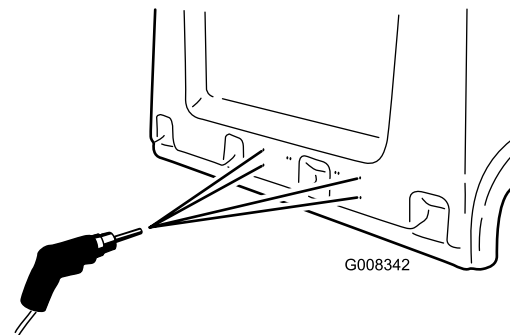

Figure 4
4. At the (4) outer locations previously marked on the hood (Figure 4), drill .281 inch diameter holes for installing the plate to the hood.